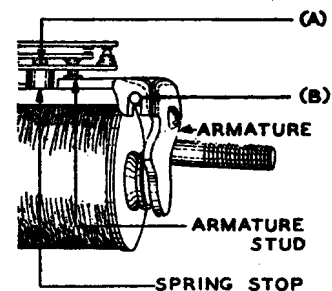

Fig. 1 - 207 Type Relay
1.05 *Stud and Stop Clearance* — Fig. 1 (A): Stud and stops clear springs through which they pass.
1.06 *Armature Movement* — Fig. 1 (B): Move freely in bearings.